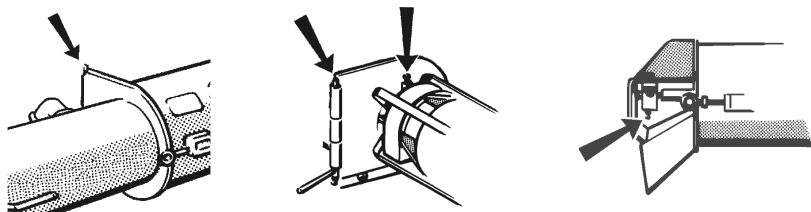

Fig. 15: Securing pin Motor and securing pin Bearing cover
- Lubricate the grease points every 4 to 6 weeks with a high-pressure grease gun (1 or 2 shots) and bearing grease (fig. 15)